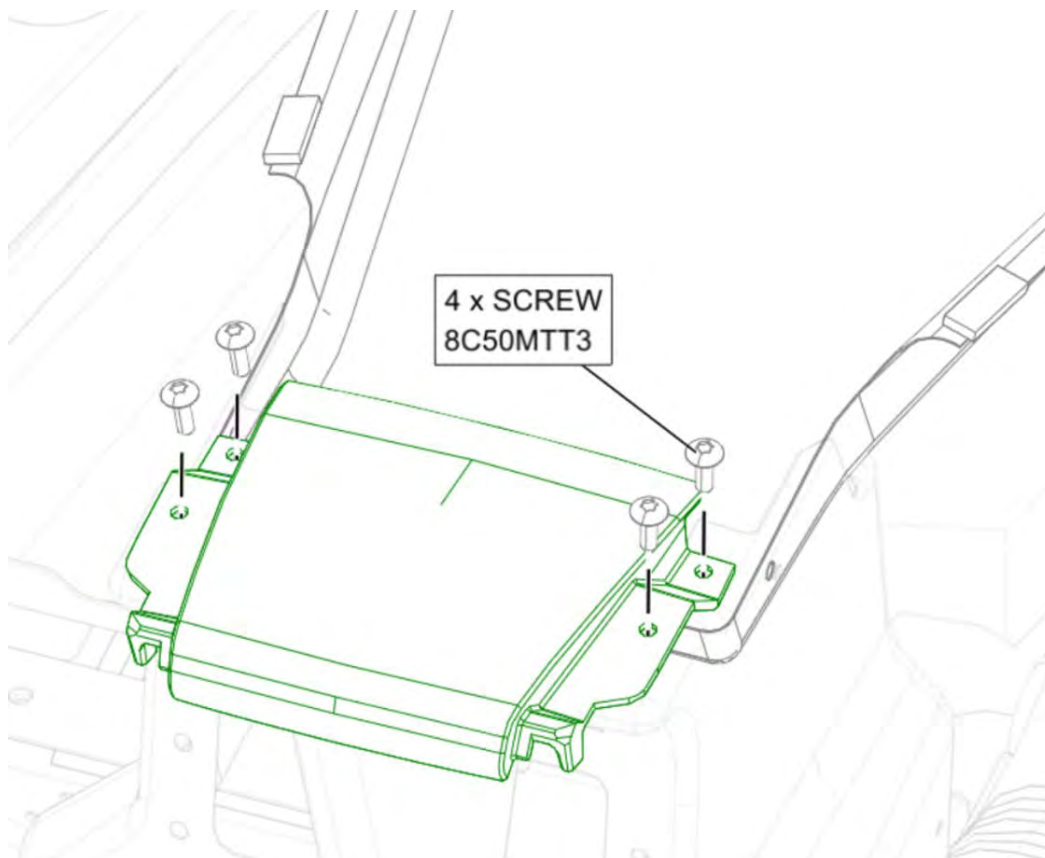

FIGURE 9-15
6. Install Handhold using four screws as shown in Figure 9-15, torque screws to 13 in-lbs.